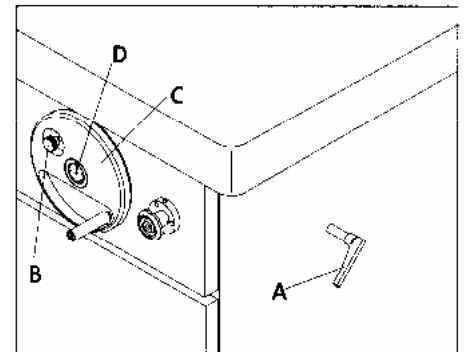

Fig.3.17
1. Loosen locking lever (A) and knob (b) Fig. 3.17, before making adjustment of spindle height.
2. To raise the spindle, turn handwheel (C) counterclockwise and to lower the spindle, turn handwheel (C) clockwise.
3. Tighten knob (B) and locking lever (A) when desired spindle height is obtained.
4. The dial indicator (D) is for the use of micro-adjustment of spindle.